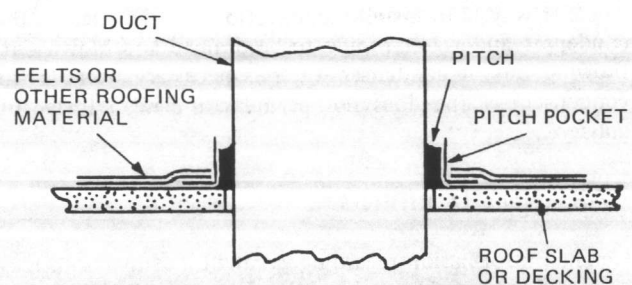

FIG. 8— RECOMMENDED THRU-THE-ROOF DUCTING
13. Ducts passing through roof should be installed as shown in Fig. 8.